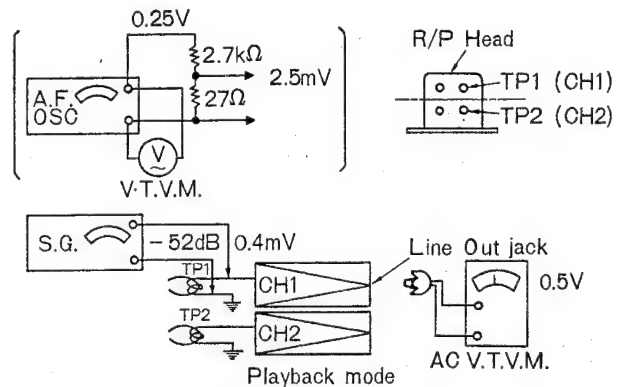

Figure 16
1. PLAYBACK AMPLIFIER SENSITIVITY (Refer to Schematic Diagram and Figure 16)
Refer to Figure 16